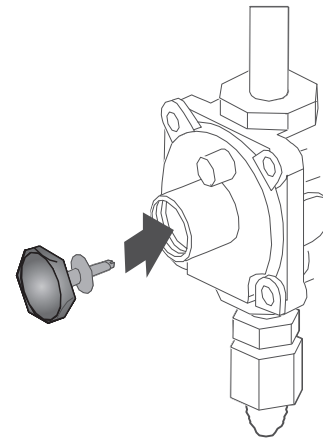

Figure 9
- 6** Screw the regulator cap back into the regulator and re-attach it to the nipple and flare union as shown. DO NOT over-tighten (see Figures 9 and 10).